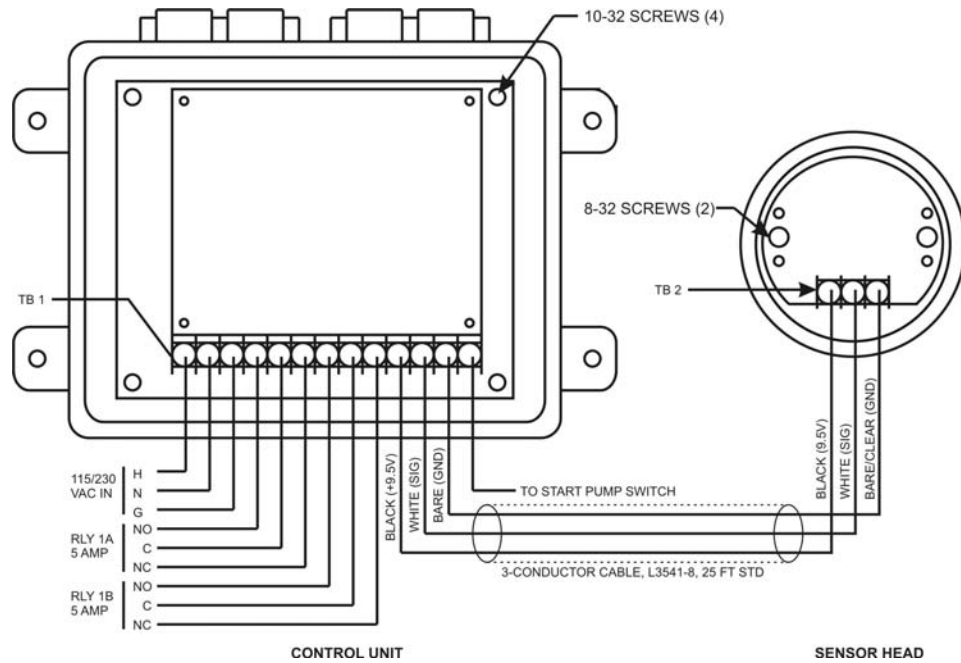
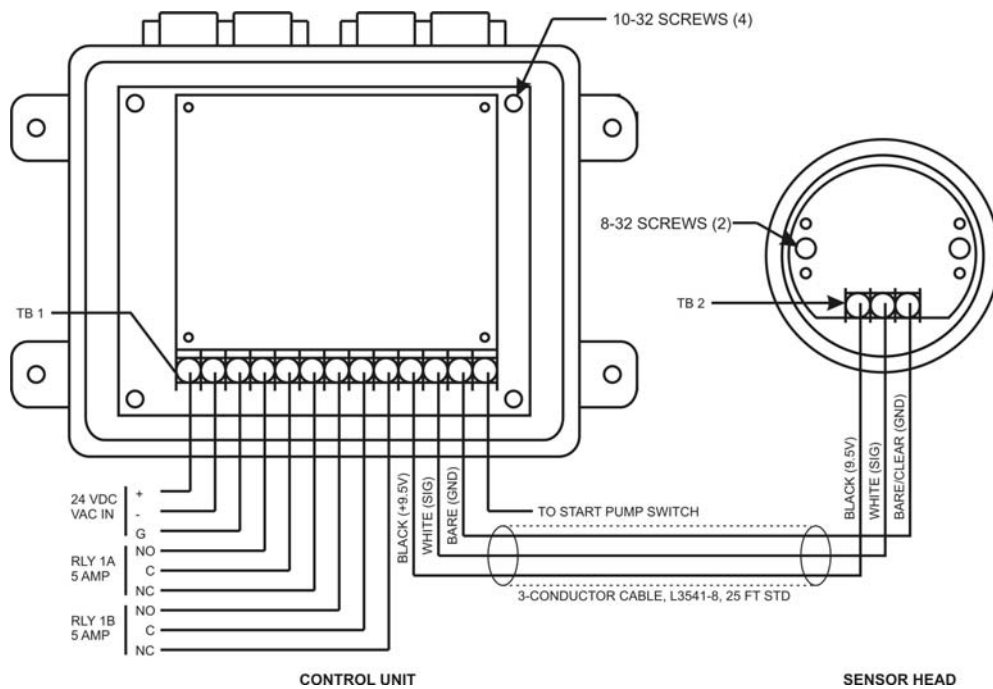

Figure 3-10. Electrical Connections – 115Vac & 230Vac Units
Figure 3-11. Electrical Connections – 24Vdc Units
For 115Vac and 230Vac powered units, connect the ac power line wires: Hot (H), Neutral (N), and Ground (G) respectively, to the left side of terminal strip (TB1) as shown in Figure 3-10.
If the unit requires 24Vdc for power, the terminal strip TB1 is labeled as plus (+), minus (-) and ground (G). Connect 24Vdc power to the left side of terminal strip (TB1) as shown in Figure 3-11.
Connect the normally open (NO), normally closed (NC) and common (C), relay wires to the terminal strip (TB1) as shown in Figure 3-10 and Figure 3-11,
The relay contact configuration, shown in Figures 3-10 and 3-11, and labeled on the instrument circuit board, is identified as such with the relay in the de-energized (shelf) state. Fail-safe operation requires relay to be normally in the energized (non-shelf) state. Upon alarm, configured as either HIGH or LOW, the relay then becomes de-energized (shelf state), as per Figure 3-10, 3-11 and TB1 labeling.
Connect the Control Unit to Sensor Head cable (supplied with the unit) to the terminal block TB1 as shown in Figure 3-10 or 3-11:
Pull the Control Unit to Sensor Head cable (L3545-8) through the wiring port opening, allowing enough slack for the individual wires to reach the terminal block locations. Connect the three cable wires; Black, White, and Bare respectively, to the terminal block (TB2) as shown in Figures 3-10 and 3-11. These connections supply power to the Sensor Head from the Control Unit, and return the measurement signal from the Sensor Head to the Control Unit.